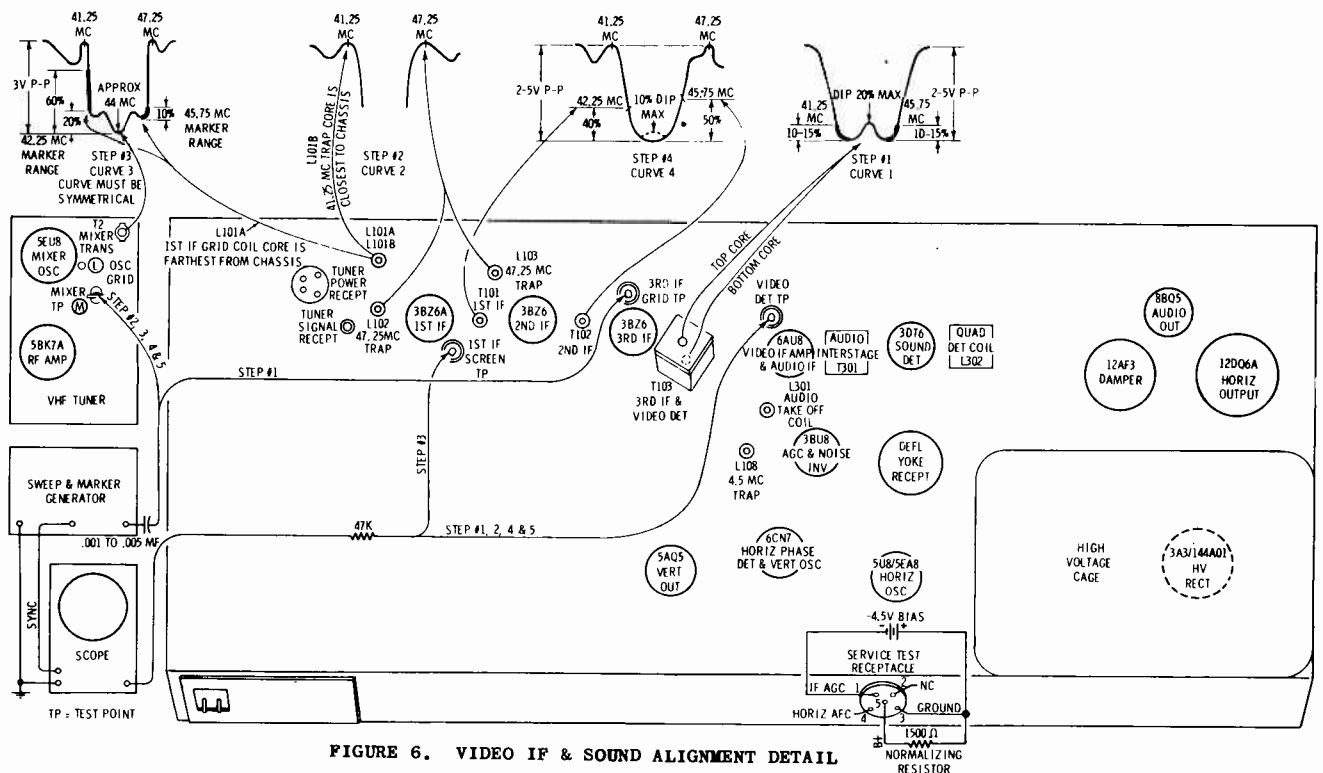

FIGURE 6. VIDEO IF & SOUND ALIGNMENT DETAIL
3. Disable oscillator by shorting point "L" located near oscillator tube V-2, to chassis. See Figure 6.
10. Refer to Video IF & Sound Alignment Detail for component and test point locations (Figure 6).
3. Refer to Video IF & Mixer Alignment Detail for coil and test point locations (Figure 6).